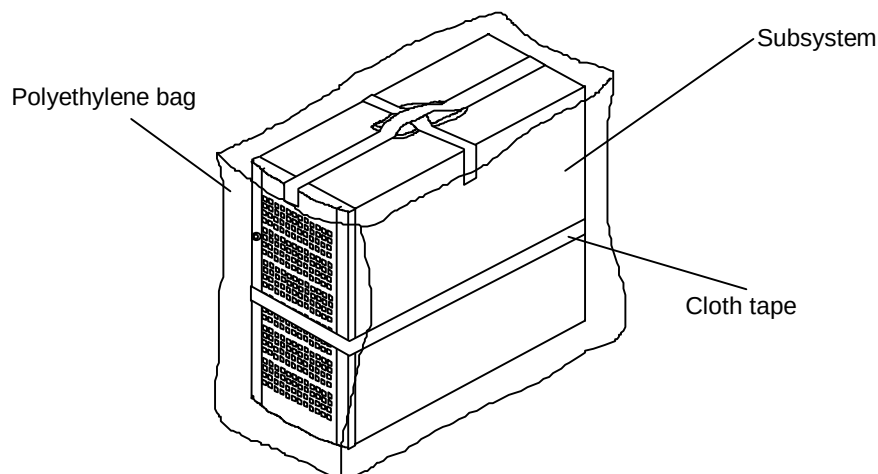

Figure 3.1.2 Subsystem without External Packaging
- (2) Figures 3.1.2 to 3.1.3 show the subsystem without external packaging.
- (3) Unpacking
- ① Loosen the polyester bands.
- ② Pull out the Tri-wall nails.
- ③ Remove the external packaging and packing materials.
- ④ Take the subsystem out of the polyethylene bag.
- ⑤ Keep two keys in the attached box carefully.